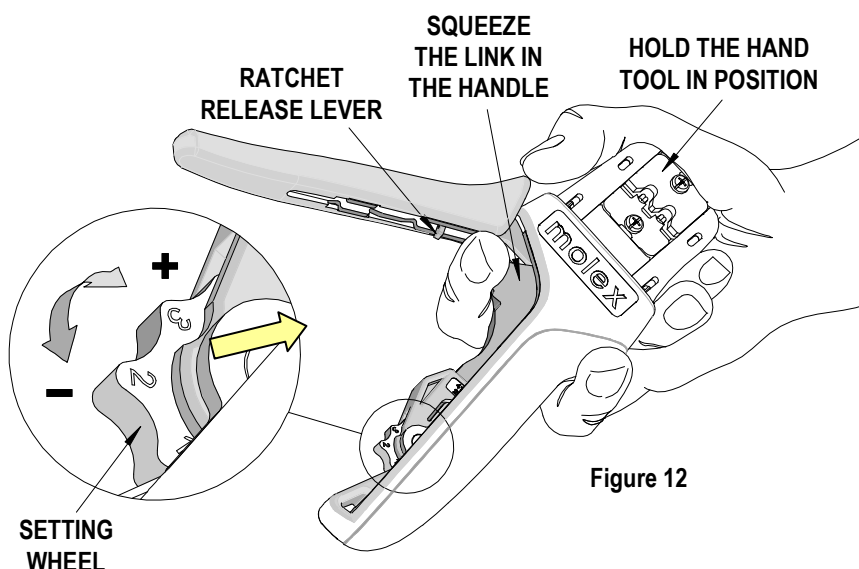

Figure 12
- Hold the hand tool in the palm of your hand as shown in Figure 12. Using the index finger squeeze the link towards the top of the hand tool frame. This will release the preload adjustment wheel.
- Rotate the setting wheel counter-clockwise (CCW) to increase handle force. The numbers will display higher. To decrease handle force, rotate the setting wheel clockwise (CW).